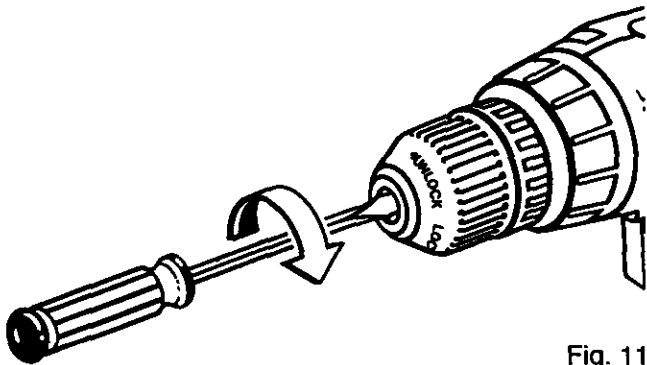

Fig. 11
- Open chuck jaws and remove allen wrench. Remove the chuck screw by turning it in a clockwise direction. See Figure 11. **Note:** The screw has left hand threads.